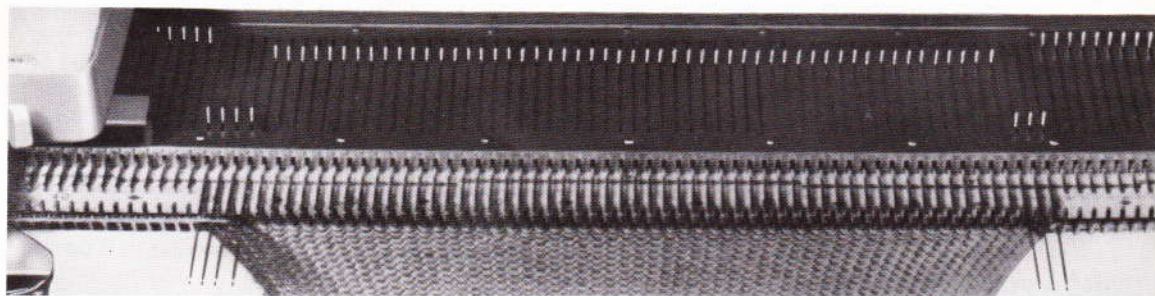

Fig. 198
3. Push 1 needle at left and 3 at right to F position (fig. 198). Knit 1 row.